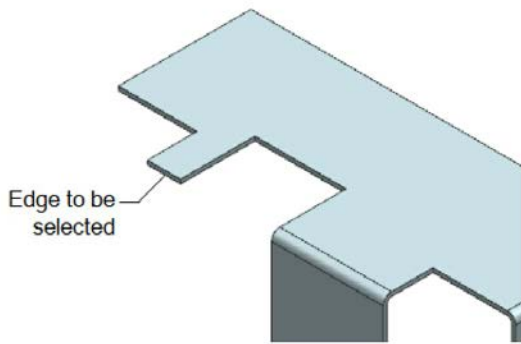

Figure 14-110 Edge to be selected
8. Select the edge, as shown in Figure 14-110.